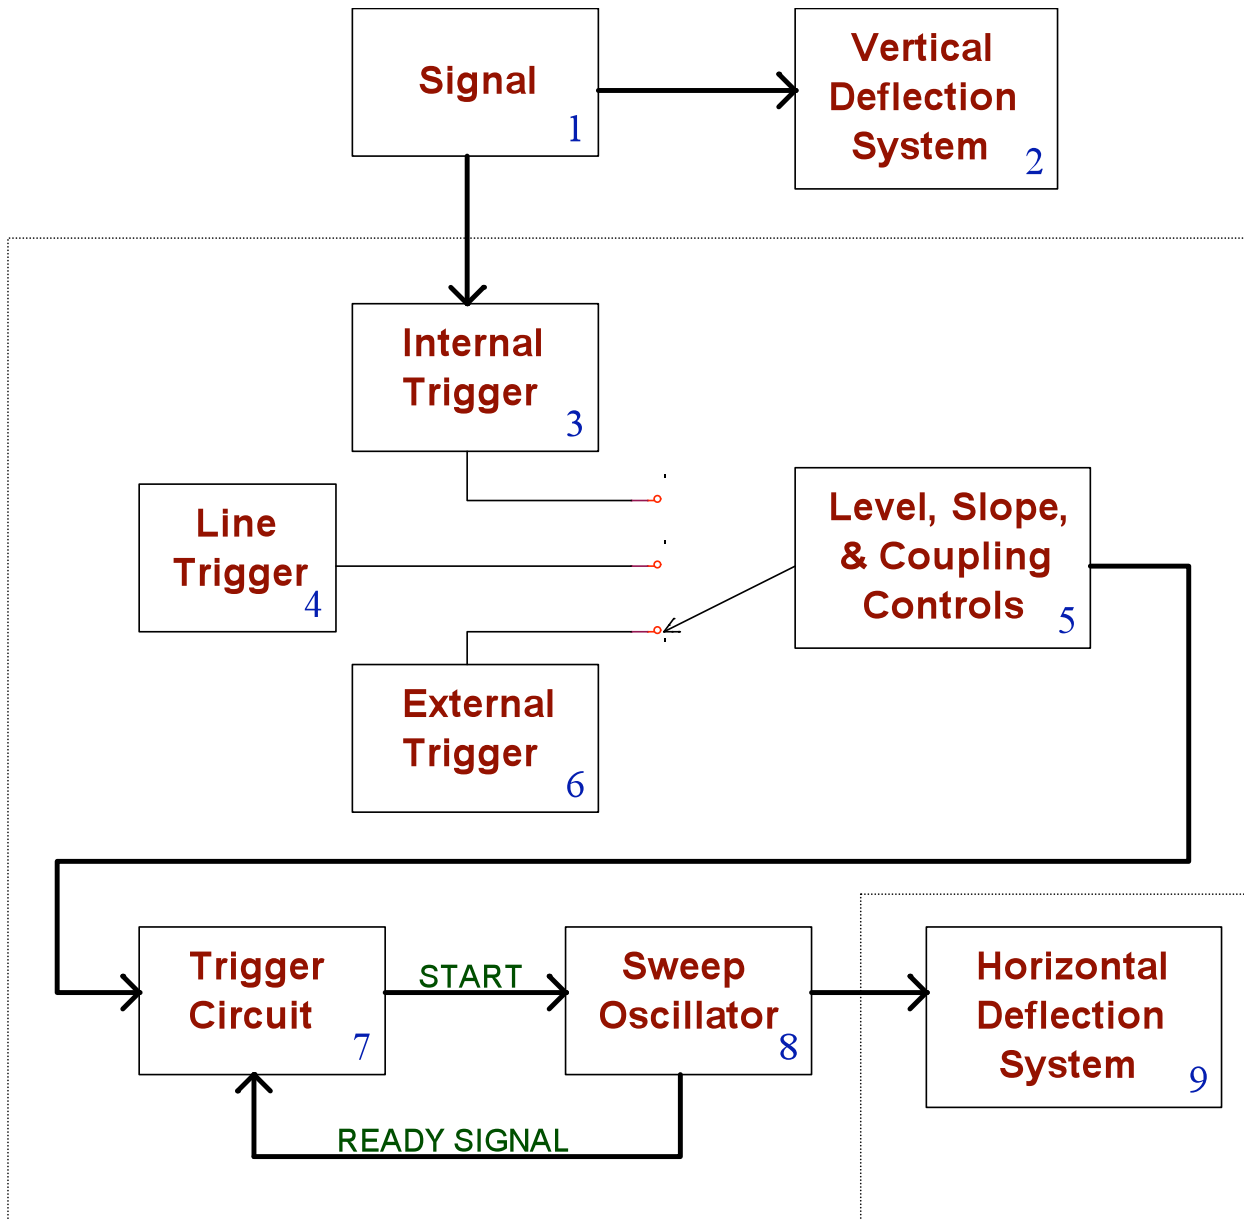

Figure 7. Block diagram of Trigger System (inside dashed-line box)
8. The drawing of Figure 7 shows a block diagram of the trigger system. The trigger circuit sends a signal to the sweep oscillator telling it to initiate a display. This happens only when the signal has certain features, namely that its amplitude and slope are what the viewer requires. In the example we have been using, the signal has the proper sign and slope once every 3 seconds.